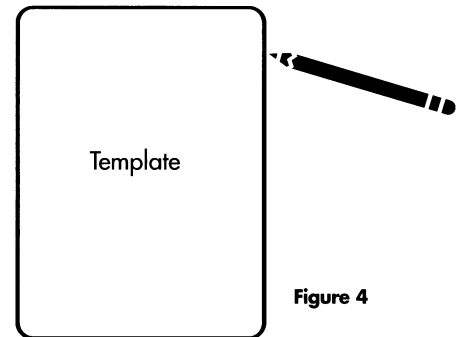

Figure 4
- Using the supplied template, trace the installation location with a pencil. You can do this by holding the template in your preferred location and tracing around it. Use a bubble level to square and level the template [Figure 4].